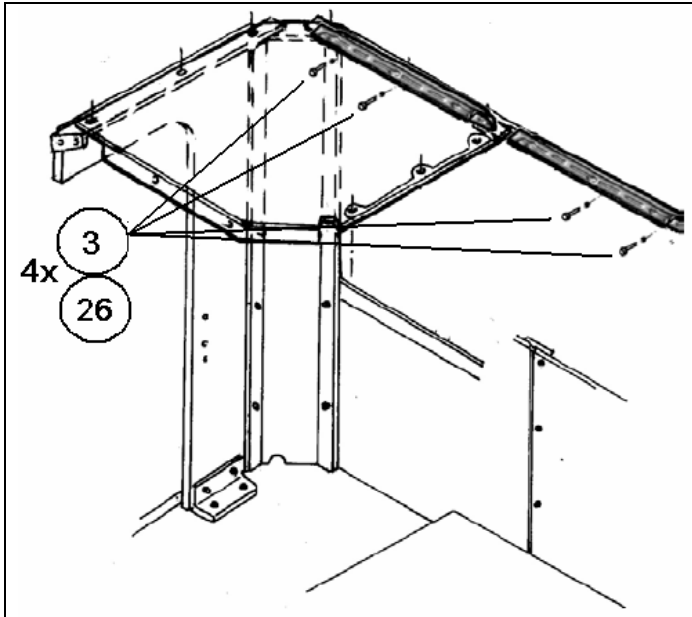

**Figure 5-36. Roof Kit Installation –
6. Raise the left side roof panel #817 into position on the left side of the cab ceiling (reference Figure 5-36). Rest the outboard side of the panel on top of the upper edge of overlap #802 (reference Figure 5-36). Install the outboard fasteners connecting the roof panel #817 to corner overlap #803. Also, install fasteners connecting roof panel #817 to roof panel #818.